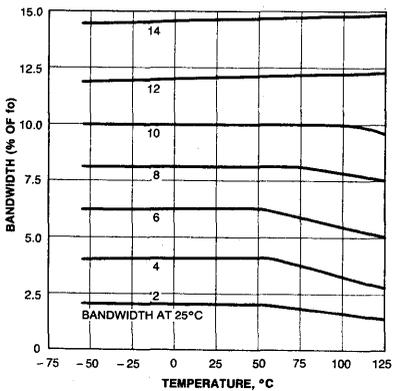

FIG 13. GREATEST NUMBER OF
2. Operating the LM567L in a reduced bandwidth mode of operation at input levels less than $200mV_{rms}$ results in maximum immunity to noise and out-band signals. Decreased loop damping, however, causes the worst-case lock-up time to increase, as shown by the graph of Fig 13.